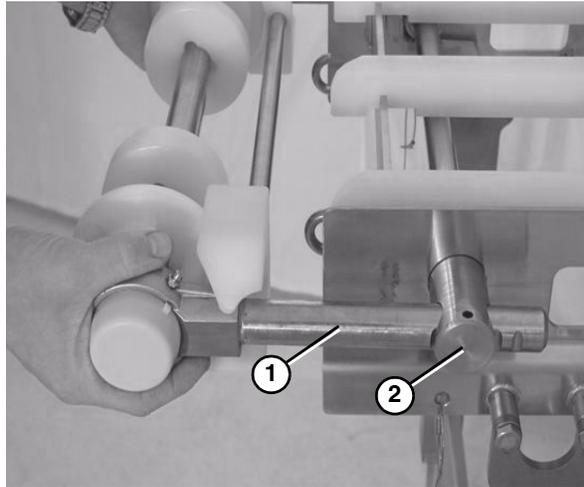

Figure 66
2. Slide the idler tail assembly (Figure 66, item 1) out of the take up blocks (Figure 66, item 2).